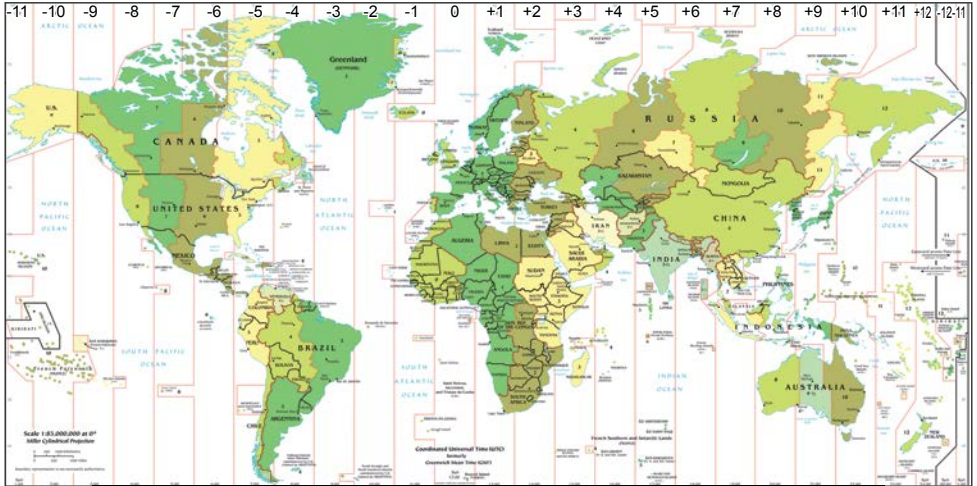

Fig. 23 Time zones
- ▶ Time zone GMT (e.g. +1 in Germany, see Fig. 23)